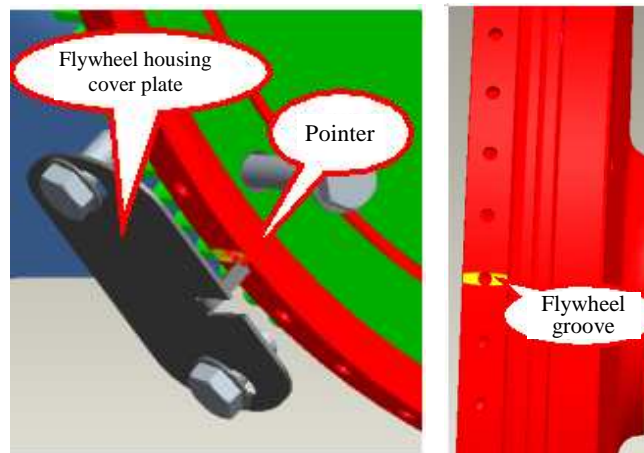

Figure 5-11
- When the diesel engine is in its cold state, turn the crankshaft forward (in the direction of the diesel engine running) to TDC of Cylinder 1 and Cylinder 6. At this moment, the groove on the flywheel is aligned to the pointer on the observation hole cover plate, as shown in Figure 5-11;